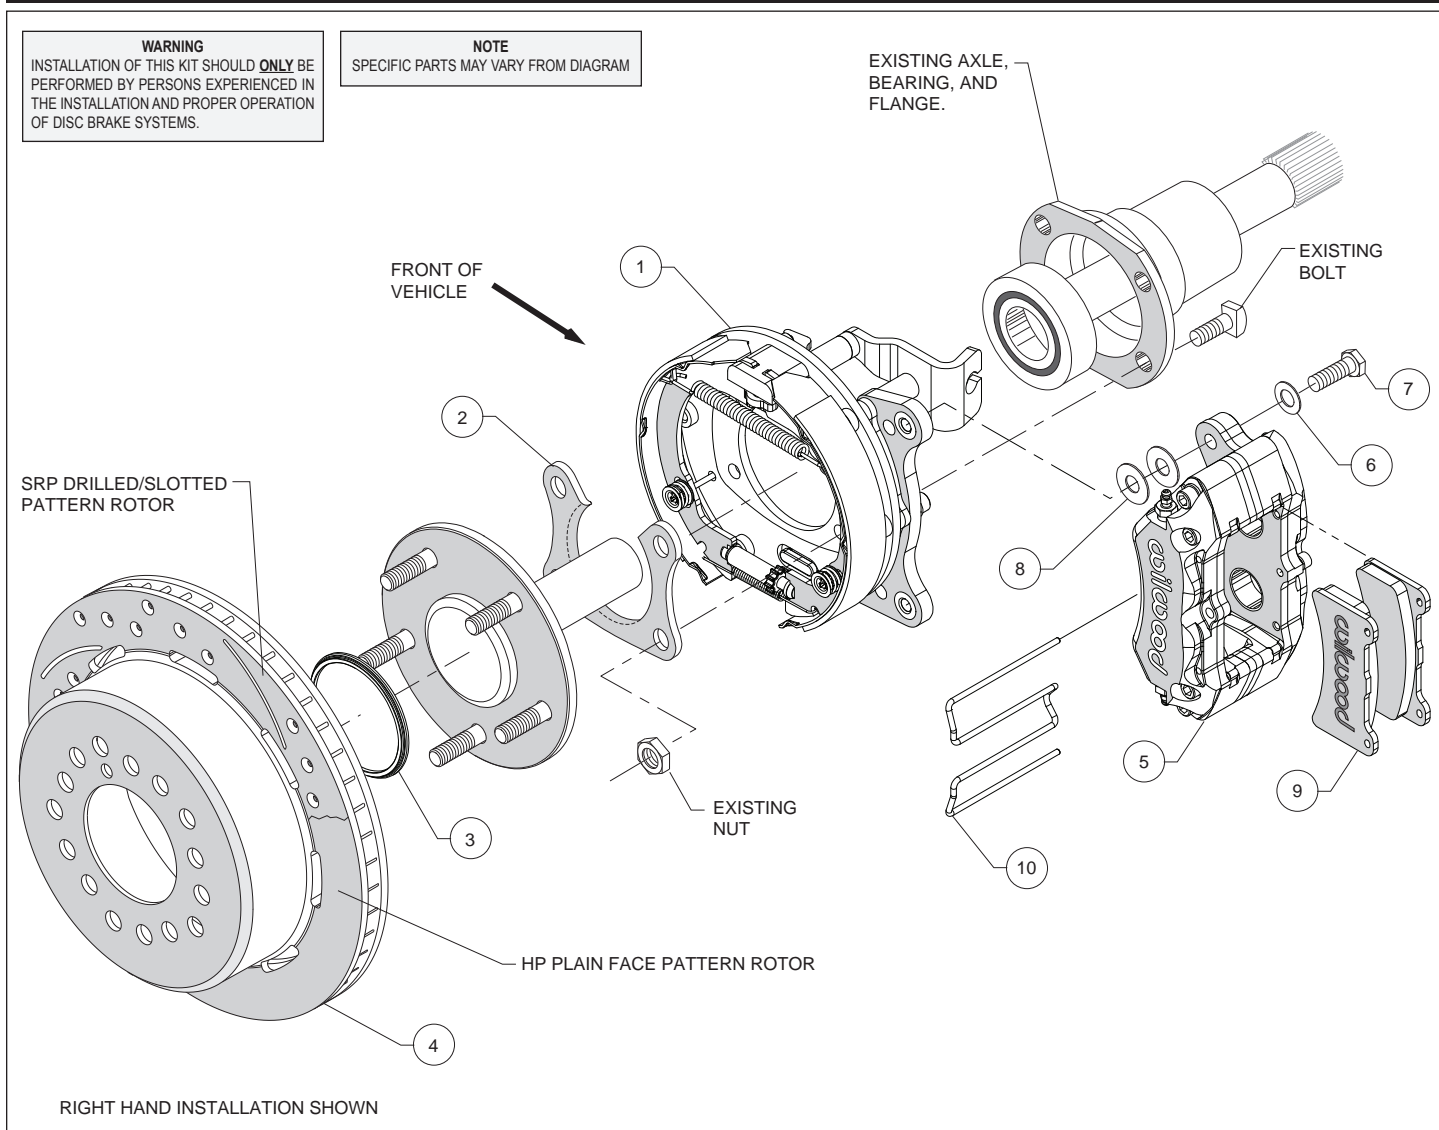
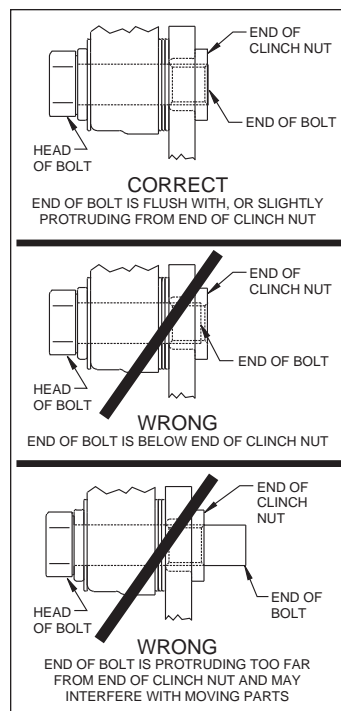

Figure 1. Typical Installation Configuration
Figure 5. Clinch Nut Engagement Diagram
Assembly Instructions (numbers in parenthesis refer to the parts list, and Figure 1 on the preceding pages): **CAUTION:** All mounting bolts must fully engage clinch nuts. Be sure to check that all bolts are either flush or protruding through flanged side of clinch nut after shimming, Figure 5.
- Orient the bracket assembly (1) as shown in Figure 1 and Photo 1 and slide it onto the axle. Insert the axle and bracket into the axle housing. Ensure that the bracket assembly backing plate fits flush against the axle housing flange.
- Install the bearing retainer (2) with the opening pointing upward and the lip facing inward (toward the bearing), as shown in Figures 1 and 4, and Photo 2. Secure retainer and bracket assembly to the axle housing flange using the Original Equipment Manufacturer (OEM) bolts and nuts, Figure 1. Apply red *Loctite*® 271 to the OEM bolt threads and torque to OEM specifications.
•Slide the rotor registration adapter (3) onto the axle register on the axle flange with the smaller O.D. facing toward the rotor/hat (4), Photo 3. Align the correct hole pattern in the rotor/hat with the stud pattern on the axle flange and slide into place, Figure 1 and Photo 4. **NOTE:** The rotor/hat must fit flush against the axle flange or excessive rotor run out may result. Install three lug nuts (finger tight) to keep the rotor/hat assembly in place while continuing with the installation. **NOTE:** Some OEM and after market axles come with stud sizes larger than 0.50" diameter. Verify stud size and have a qualified machine shop drill the bolt circle of the hat/rotor to the correct stud size, if necessary.
•**NOTE:** Please reference the caution statement at the beginning of the assembly instructions. Mount the caliper (5) onto the caliper mounting bracket (1) using bolts (7) and washers (6), as shown in Figure 1. Initially place two .035" thick shims (8) on each bolt between the caliper and the bracket, Photo 5. **NOTE:** For forward mounted calipers only, the cable bracket must be temporarily removed to allow access to the upper caliper mount bolt. Remove the two flathead bolts holding the cable bracket to the parking brake backing plate, Photo 6. **DO NOT mix the bolts or spacers.** They must be reinstalled in the same locations as they were removed.
•Temporarily tighten the caliper mounting bolts and view the rotor (4) through the top opening of the caliper. The rotor should be centered in the caliper, Photo 7. If not, adjust by adding or subtracting shims between the bracket and the caliper. Always use the same amount of shims on each of the two mounting bolts. **NOTE:** The end of each bolt must be flush with or slightly protruding from the head of the clinch nut, as shown in Figure 5. If necessary place spare shims between washer (6) and caliper mounting ear to achieve the proper clinch nut engagement. Once the caliper alignment and clinch nut engagement are correct, remove the bolts one at a time, apply red Loctite® 271 to bolt threads, and torque to 40 ft-lb.